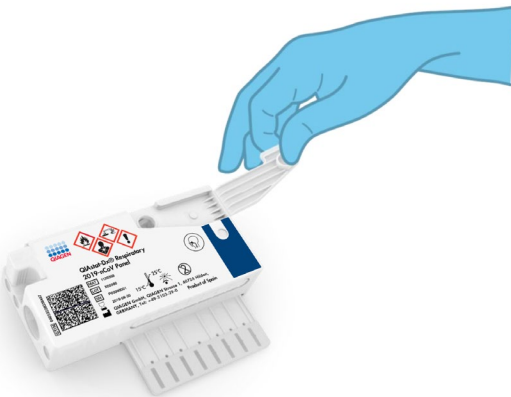

Figure 19. Opening the sample lid of main port.
4. Open the sample lid of the main port on the front of the QIAstat-Dx Respiratory 2019-nCoV Panel Cartridge (Figure 19).